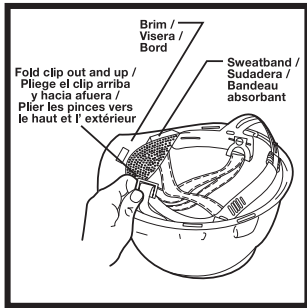

Figure 1
- Line up the suspension so that the sweatband is at the front next to the brim (Figure 1).